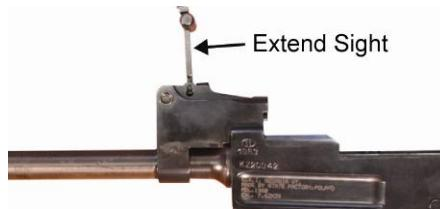

Figure 9. The Rear Sight Extended.
a. Extend the rear sight. Refer to Figure 9.